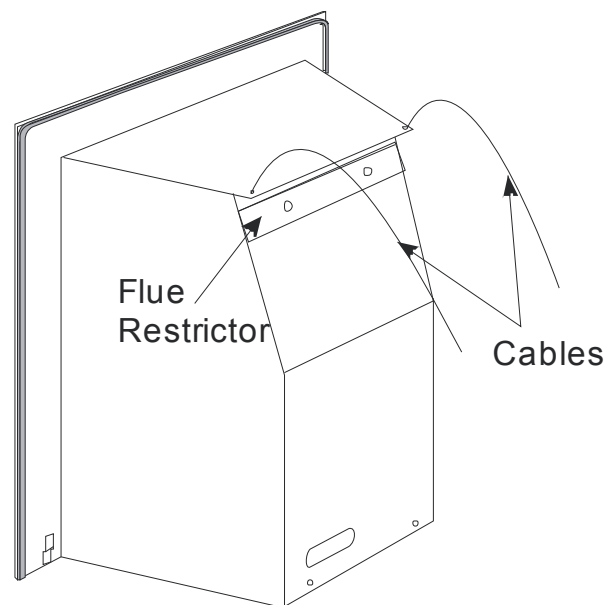

Figure 62
4. Unpack the cable fixing kit and feed the cable ends through the top holes on the sides of the flue outlet (see **Figure 62**).